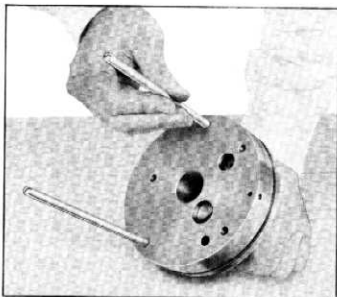

Fig. 121—Guide Pins in Front Pump
- Align the holes in the stator support assembly with the holes in the front oil pump body and install two $\frac{1}{4}$ -20 x $3\frac{1}{2}$ " guide pins in front pump (fig. 121). Install pump to turbine housing using pump driver J-4263.